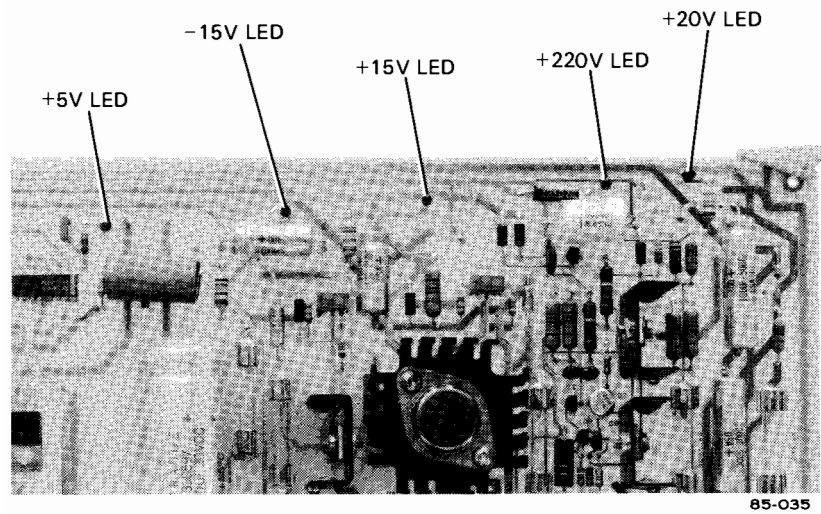

Figure 6-2. Low Voltage Power Supply Check
- a. Install the replacement Low Voltage Power supply PCA. Apply power to film Recorder and verify that the LEDs for each supply is turned on (refer to figure 6-2).